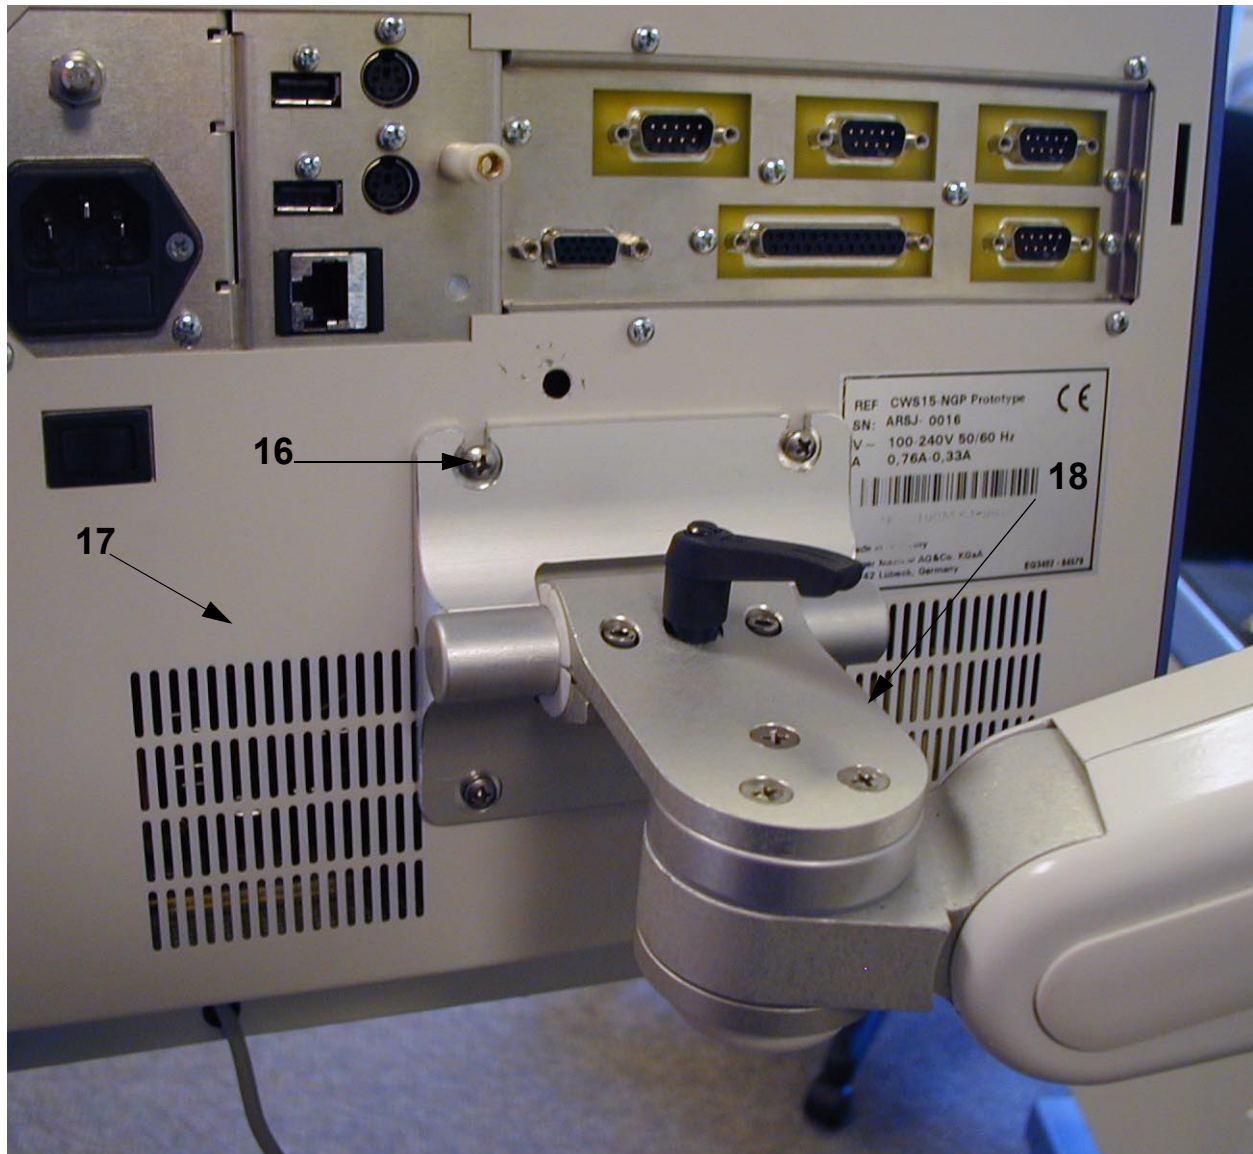

Figure 4. 4SYS Medical Grade Workstation Installation
9. Using the 4 screws removed in step 4, (16) install the 4SYS Medical grade workstation (17) onto the tilt clamp assembly (18). See Figure 4.